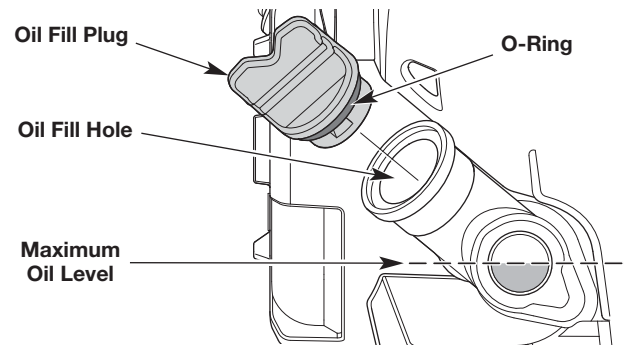

Fig. 22
3. Look into the oil level window; use a flashlight if necessary. **The oil level should fill the window approximately halfway** (Fig. 22). If the oil level is too low, add oil. Refer to *Adding Oil*.
1. Clean the area around the oil fill plug (Fig. 22) to prevent debris from entering the oil fill hole.
3. Add oil to the oil fill hole until the oil level is approximately halfway up the oil level window (Fig. 22).
NOTE: Make sure the O-ring is in place on the oil fill plug (Fig. 22).